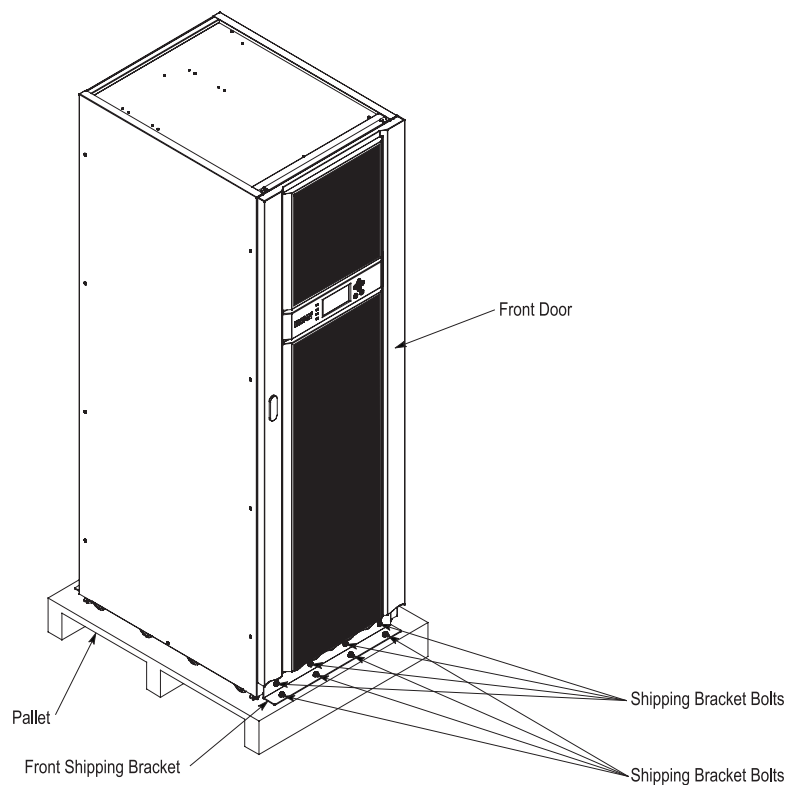
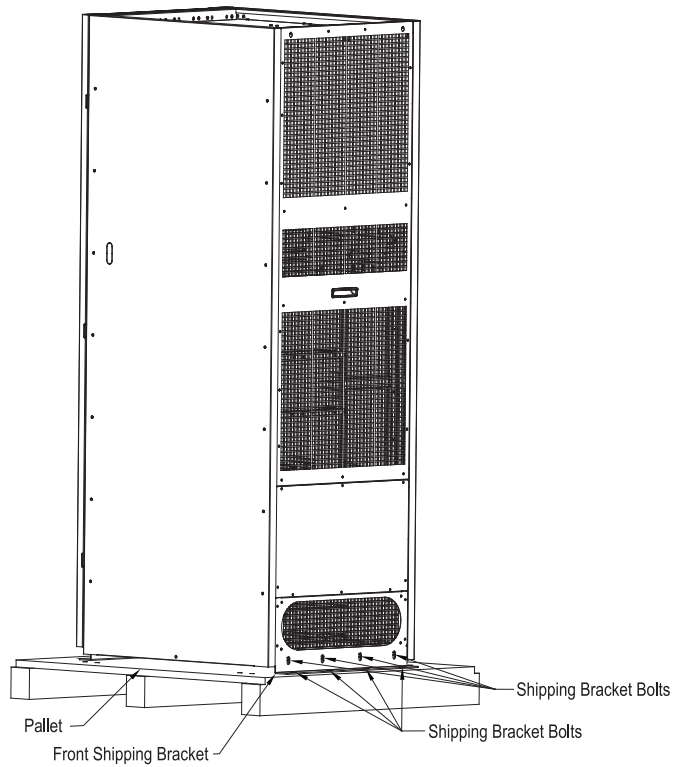

Figure 4-1: Removing the front shipping bracket
Figure 4-3: Removing the rear shipping bracket
2. Remove four bolts securing the front shipping bracket to the cabinet and four bolts securing the bracket to the pallet (see Figure 4-1 below). Remove the front shipping bracket. If installing the cabinet permanently, retain the shipping bracket and securing hardware for later use.
11. Using the retained hardware, reinstall the shipping brackets removed in Step 2 and Step 5 to the front and rear of the UPS cabinet with the angle facing outward (see Figure 4-1 above and Figure 4-3 below).